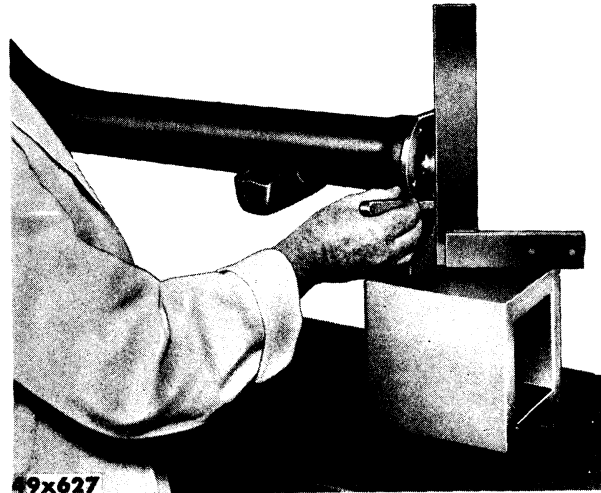

Fig. 52—Checking Vertical Alignment
- (2) Place square against machined surface of housing end flange and surface plate, as shown in Figure 52. Amount of housing misalignment will be indicated by the thickness of feeler gauge between square and end flange at top or bottom. A housing that checks more than .007 should be replaced.
- (3) To determine the amount that axle is misaligned, multiply the thickness of feeler stock used by the ration of 4.7 to 1.